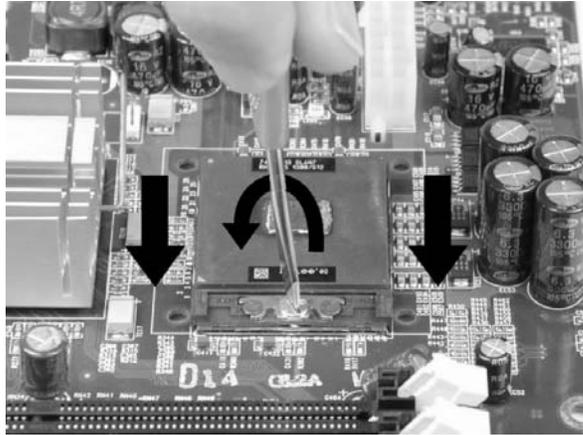

Figure 3-31: Removing the Processor
4. Figure 3-31. To remove the processor, turn the screw counterclockwise one-half turn. The socket moves to the unlocked position as indicated by the two arrows.